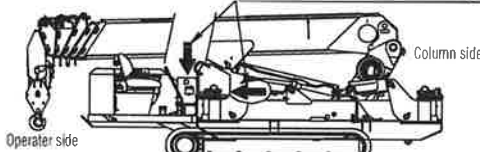

Fig.1 Covers to be removed
- Remove covers at 2 places as illustrated in the figure 1.